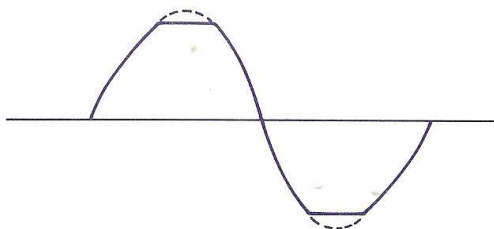

Fig. 2
- Gradually increase the output of the audio oscillator until the wave form on the oscilloscope (see Fig. 2) begins to be clipped. Adjust the left channel potentiometer VR-201 (100 K Ω) and the right channel VR-201 (100 K Ω) so that both upper and lower peaks of the wave forms begin to be clipped simultaneously at the same point of the curve.
- Gradually increase the output of audio oscillator, which is connected to AUX terminals, until the wave form on the Oscilloscope (see Fig. 2) begins to be clipped.